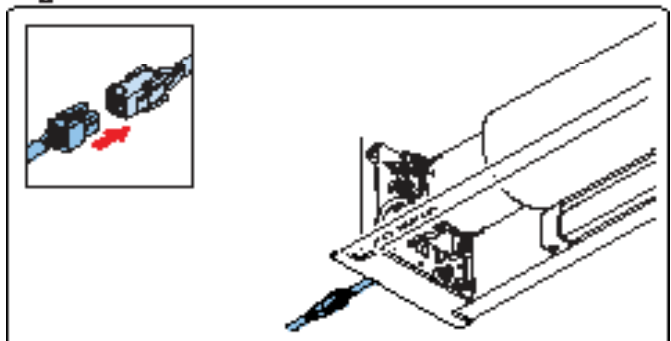

Figure 3
- Secure with safety screw (C in fig 3; #2 Philips screwdriver)